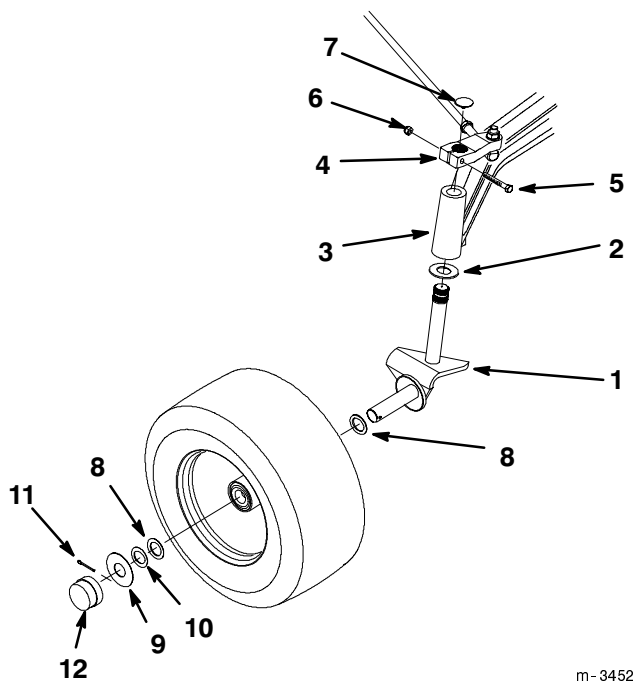

Figure 4
4. Install a 1.56 in. O.D. x 0.06 in. thick unplated thrust washer onto the splined shaft of the R.H. wheel spindle (Fig. 4).
5. Install the splined end of the R.H. spindle through the R.H. end of the front axle and into the steering arm (Fig. 4).
6. Secure the spindle shaft to the steering arm with a 5/16-18 x 2.25 in. bolt and 5/16 in. nut (Fig. 4).
8. Insert a 1.50 in. O.D x 0.05 in. thick plated wheel washer onto the R.H. spindle (Fig. 4).
9. Install a front wheel onto the R.H. spindle with the valve stem facing inward (Fig 4).
10. Insert another 1.50 in. O.D x 0.05 in. thick plated wheel washer onto the R.H. spindle (Fig. 4).
12. Insert a 1.50 in. long cotter pin into the hole in the spindle (Fig. 4).
16. Install a hubcap onto the hubcap washer until it snaps in place (Fig. 4).
19. Insert a spindle cap into the steering arm (Fig. 4).